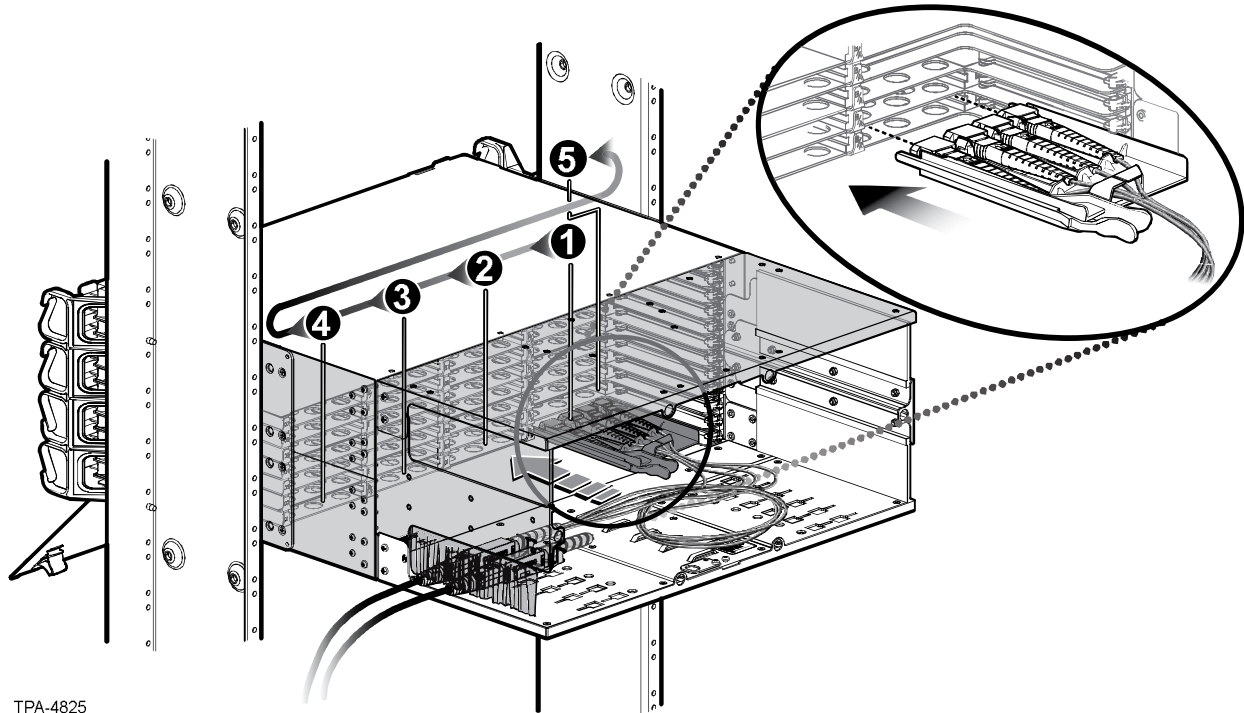

Figure 22 — Insert Adapter Panels into Rear of Housing
- Step 4: With a panel fully populated, insert panel from the rear until it locks into place (Figure 22).